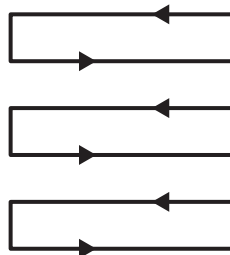

Fig. 18
5. Mow in slight overlapping rows. The most effective pattern for mowing lawns is straight lines along one of the sides. This will keep the rows even and ensures that all the lawn is cut without missing any spots (Fig. 18).